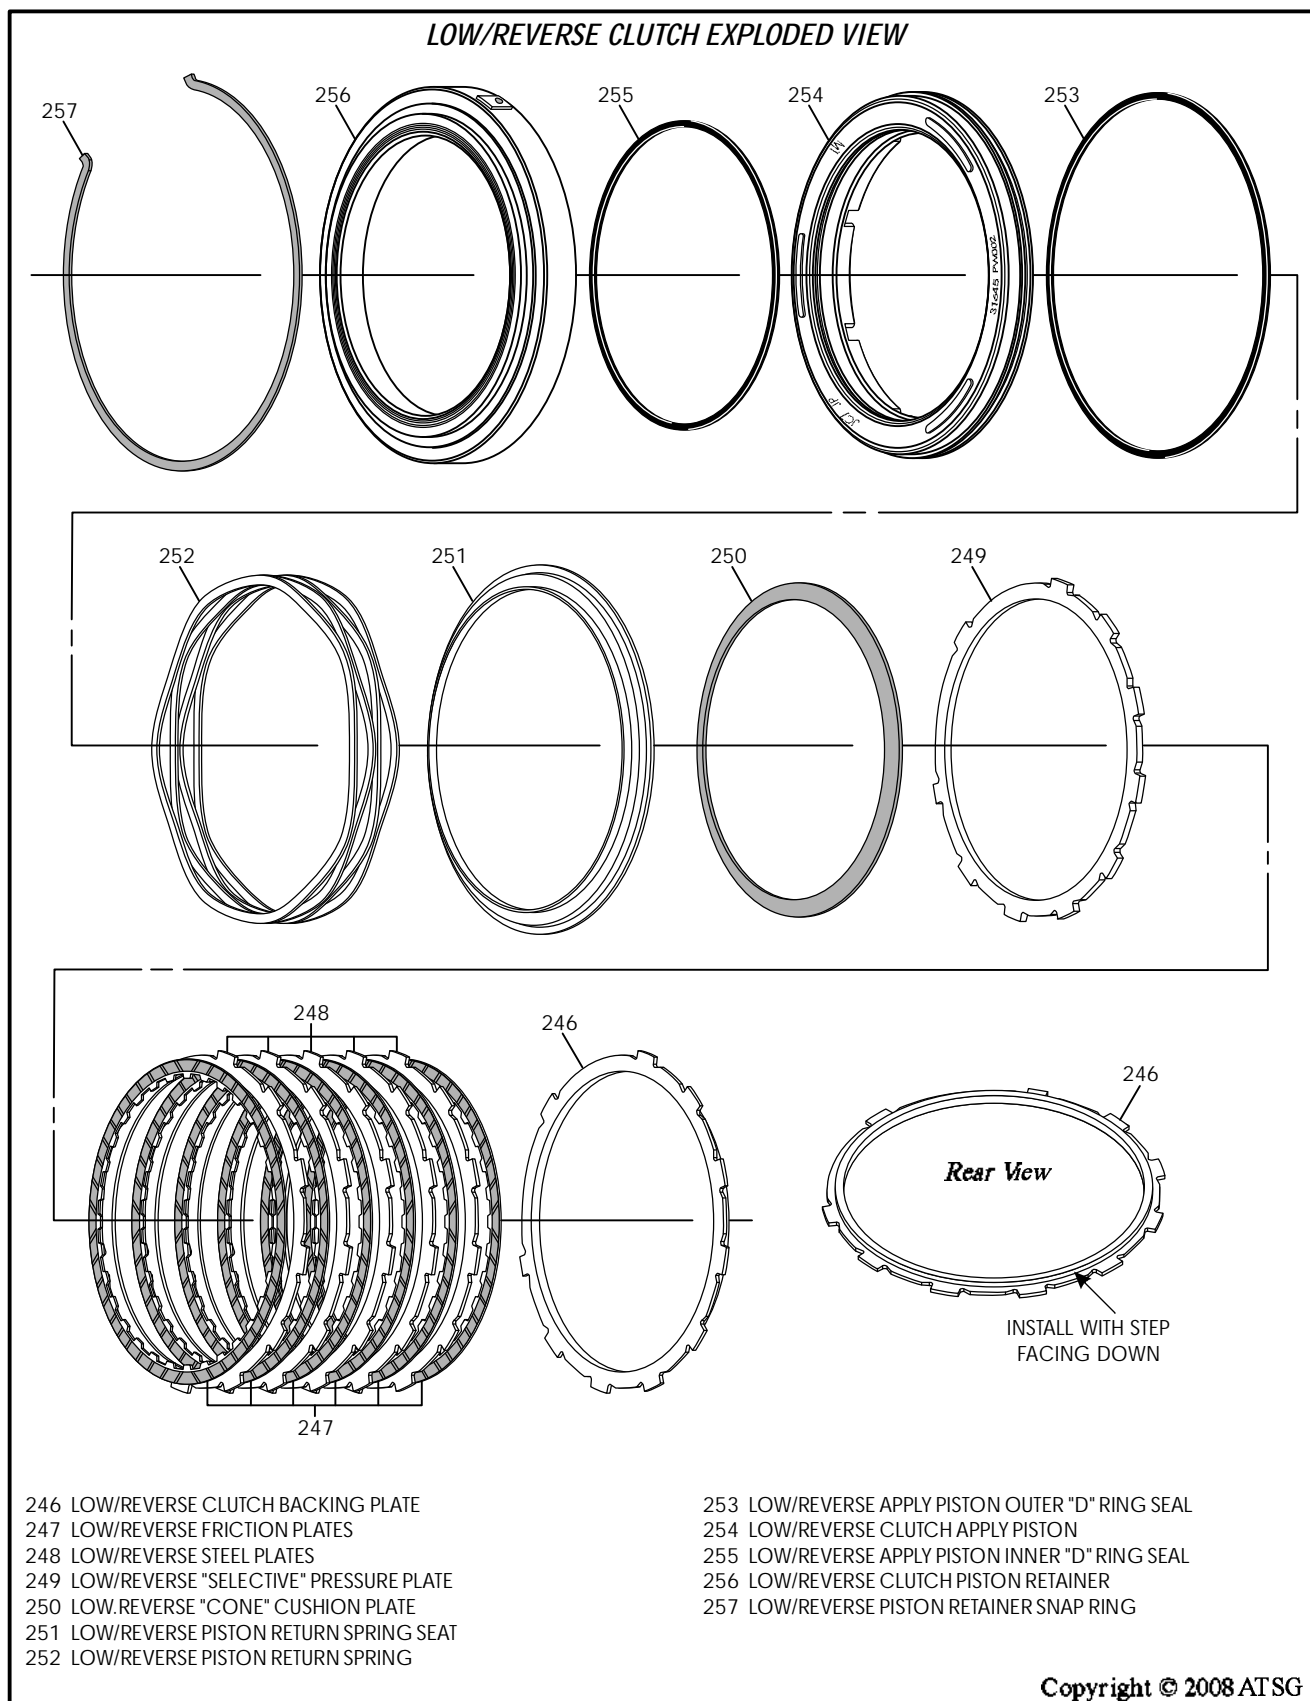

Figure 122
1. Disassemble the low and reverse clutch using Figure 122 as a guide.